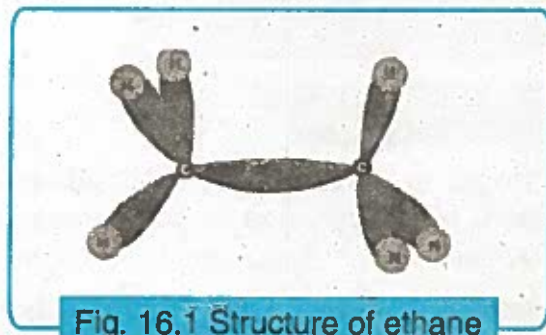

Fig. 16.1 Structure of ethane
(A) Let us consider ethane (CH_3-CH_3) for illustrating the orbital structure of alkanes. In ethane, each carbon atom is bonded to four other atoms, so it uses sp^3 hybrid orbitals to form these bonds. There are six C-H covalent bonds and one C-C covalent bond. Each of the C-H bonds, is the result of linear overlap of an sp^3 hybrid orbital of carbon and an 's' orbital of hydrogen. The C-C bond is formed due to the overlap of sp^3 orbitals, one from each carbon atom (Fig.16.1). All the C-H and C-C bonds are sigma (σ) bonds. All the bond angles are 109.5° (tetrahedral geometry). The C-C bond length is 1.54°A and each C-H bond length is 1.09°A .